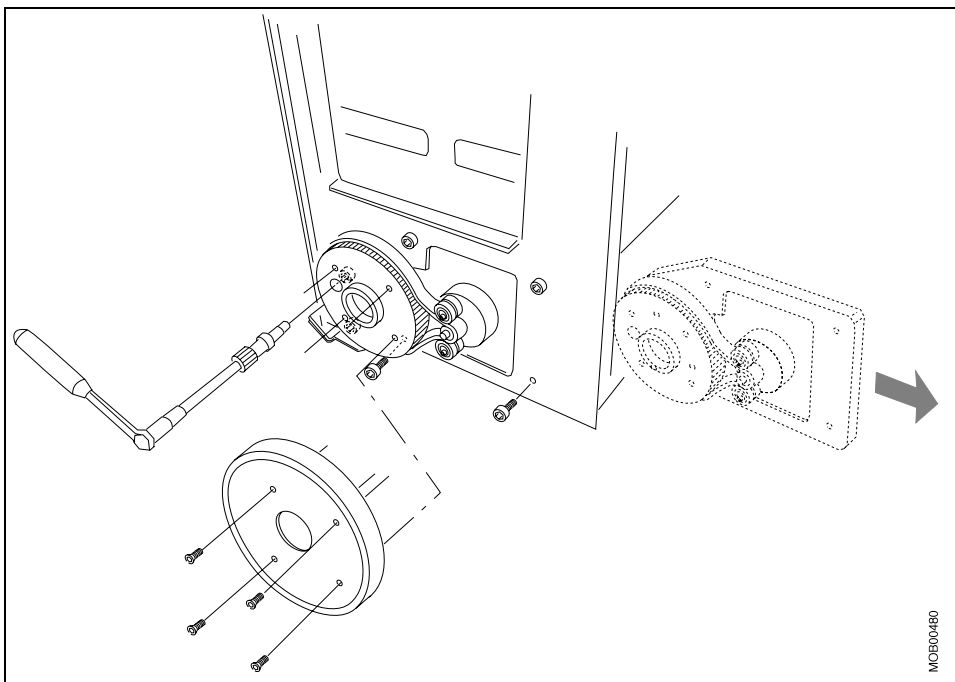

Fig. 80: Remove wheel and motor
- Remove the wheel and the four screws as shown in (Fig. 80 / p. 84).